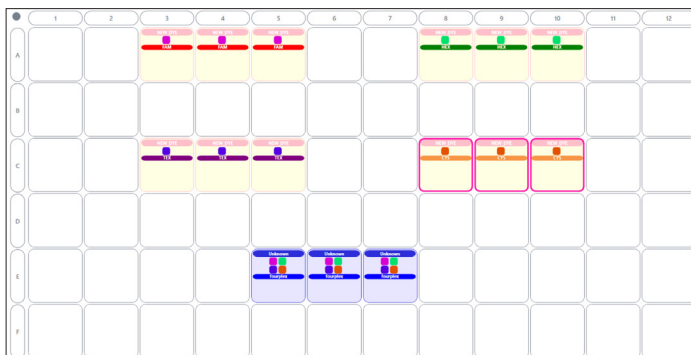

Figure 1. Triplicate simplex reactions of FAM, HEX, Texas Red, and Cy5 in non-adjacent wells, and a set of triplicate multiplex reactions.
4. Properly label the simplex reactions as Well type: “NEW_DYE”, Sample: dye name, and the channel for the new dye. (also, see Figure 1). Label the multiplex reactions as Well type: “Unknown”, Sample: multiplex, and all channels included in the multiplex reaction.